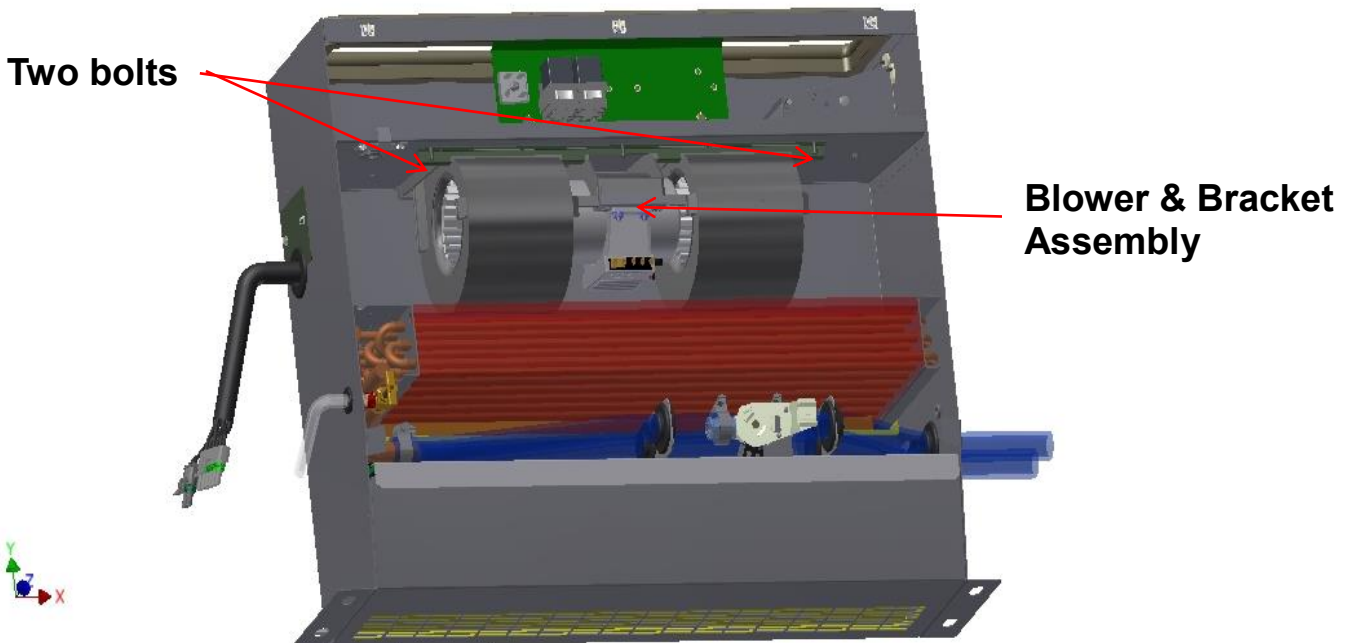

Figure 1: Defroster Assembly
5. Remove blower and bracket assembly by removing two bolts using 5/16 socket and ratchet. (See Figure 1)